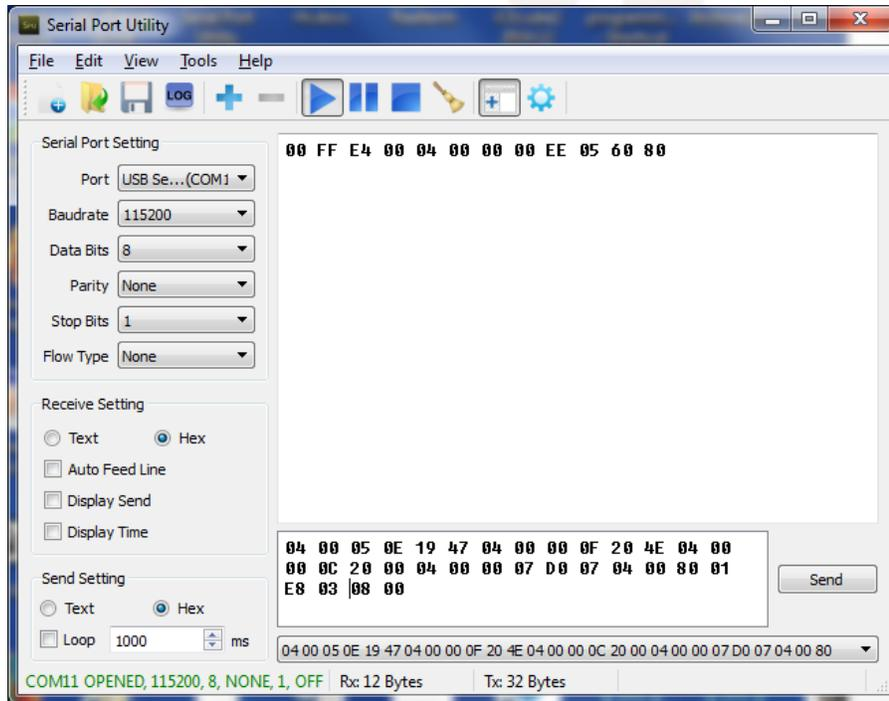

Figure 21: Using Serial Port Utility for motor control.
• **Example:** Using Serial Port Utility program (see Figure 21):
- Copy and paste the first 5 lines of program hex file onto "Send window" as in figure 21. Add 08 00 for query long request at the end. Command string will be like this: